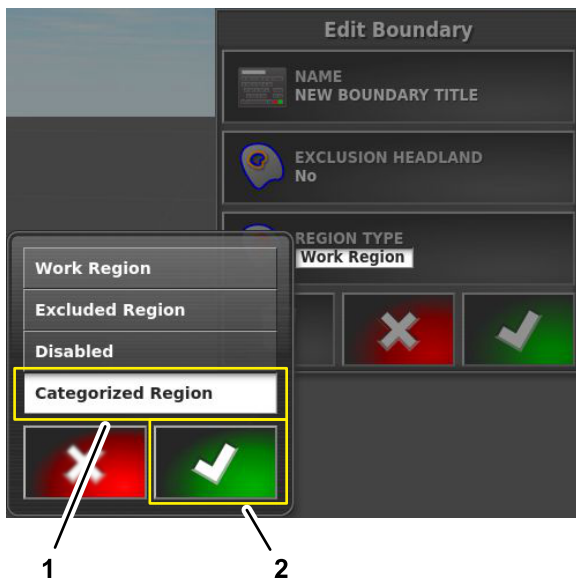

Figure 64
2. In the regions type dialog box, press the CATEGORIZED REGION icon, and press the Confirm icon (Figure 64).